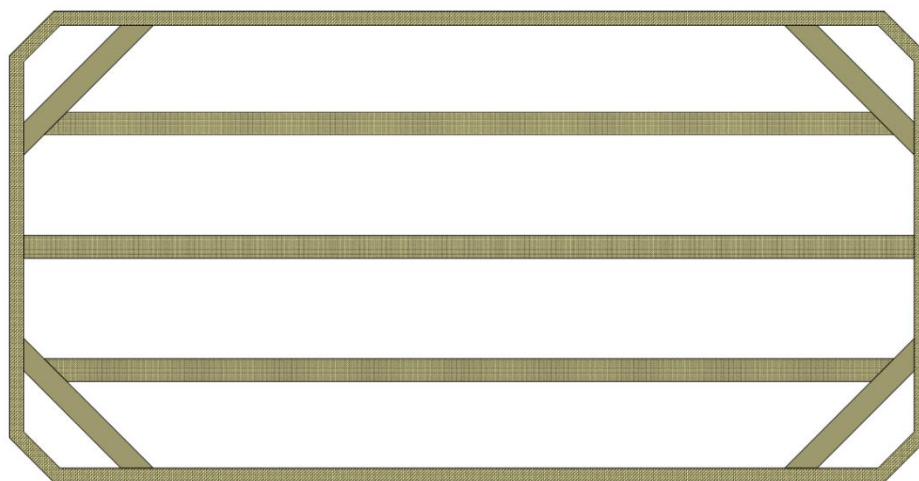

Figure 10.1
2. Epoxy in the Cube Support Beam (PN THCU002) as shown in Figure 10.1. The Cube Support Beam should be halfway along the coil going the long way ($\pm 1/16''$). Epoxy in the Angled Cube Support Beam (PN THCU001) as shown in Figure 10.1 so that the angled ends of the beams are coincident with the faces of the braces.